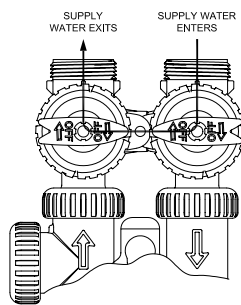
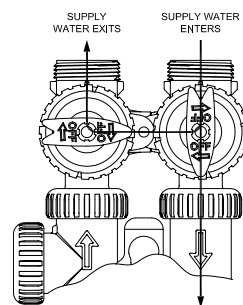

Figure 3
Figure 4
2. Place the bypass valve in the bypass position. (See figure 3) Turn on the main water supply. Open a cold soft water faucet to flush the piping of any air and/or foreign material. Run until the water is clear.
4. Plug the transformer into a 110-volt outlet. (Be certain the outlet cannot be turned off with a switch.) Within 5 seconds the control will automatically align itself into the softening mode and the display will flash 12:00 (AM).
6. Push REGEN button and hold it down for 3 seconds. The system will advance to the "First" position. (Note: Depending on how the system is programmed it could read backwash, rinse, brine or fill). Keep pushing REGEN button until "Rinse" shows in the lower right hand corner of display. Slowly place the by-pass into the "diagnostic mode" (see fig 4). Run water to the drain until it runs clear. Return the by-pass valve to the by-pass position (fig 3). Push REGEN button until "Time" appears in upper left hand corner of display.